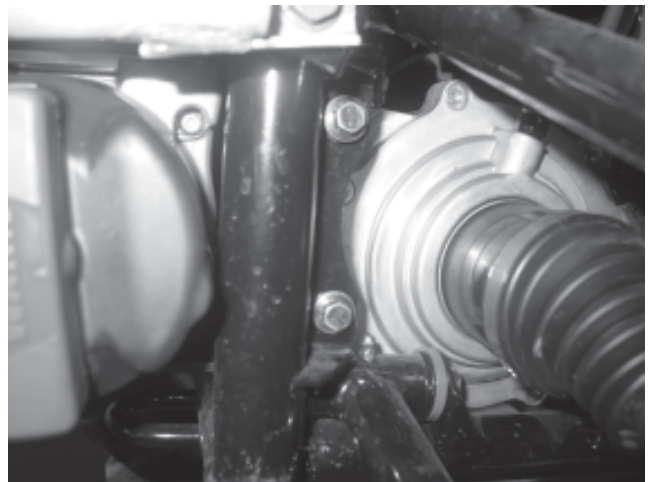

Figure 6
2. Remove the WARN winch mount. Use a 13mm socket and a 13 mm wrench to loosen the four bolts/nuts that secure the WARN winch mount to the frame (Figure 6).